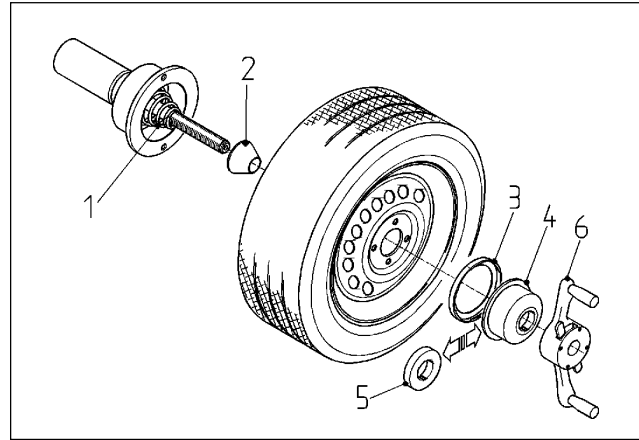

Fig. 24
- C. Slide the spring and the cone (#1,#2 Fig.24) onto the shaft of the balancer, now mount the wheel. A spring to maintain a sufficient pressure on the cone to center the wheel properly. Secure the wheel with the quick nut (#6 Fig.24) and attached plastic drum (#4 Fig.24).**
If the rim is made of a light alloy, attach the rubber protector (#3 Fig.24) to the plastic drum. In certain types of rims it is required to use the plastic ring (#5 Fig.24).